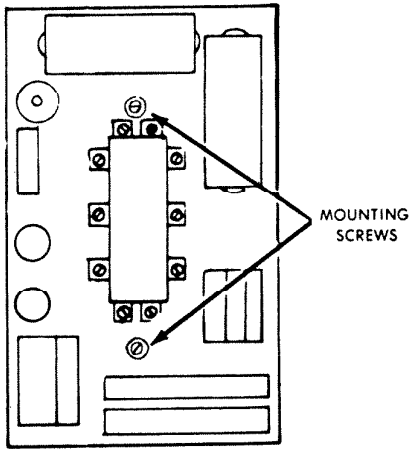

Fig. 1
3. In some instances the amplifier may be mounted on a single gang junction box. To remove amplifier from the junction box, remove the two mounting screws shown in Figure 1.